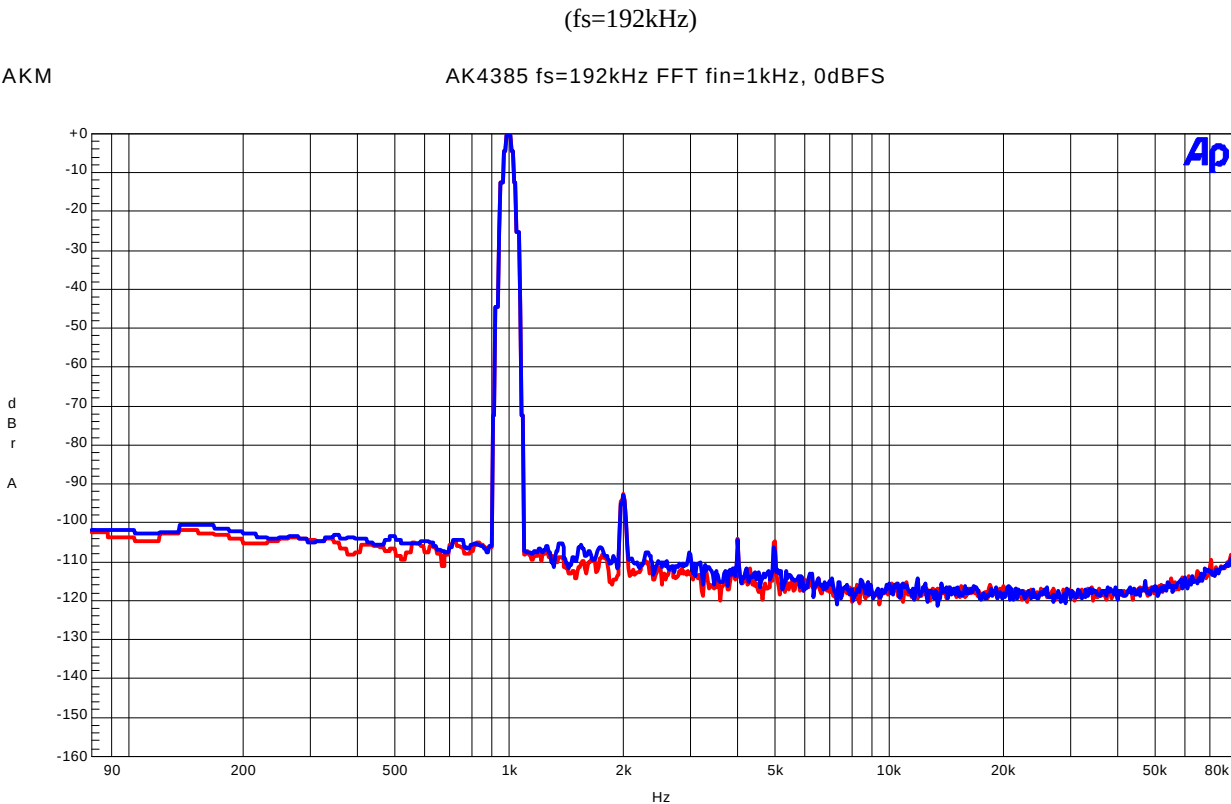

Figure25. FFT (1kHz, 0dBFS input, Notch=OFF)
- Figure25. FFT (1kHz, 0dBFS input, Notch=OFF)